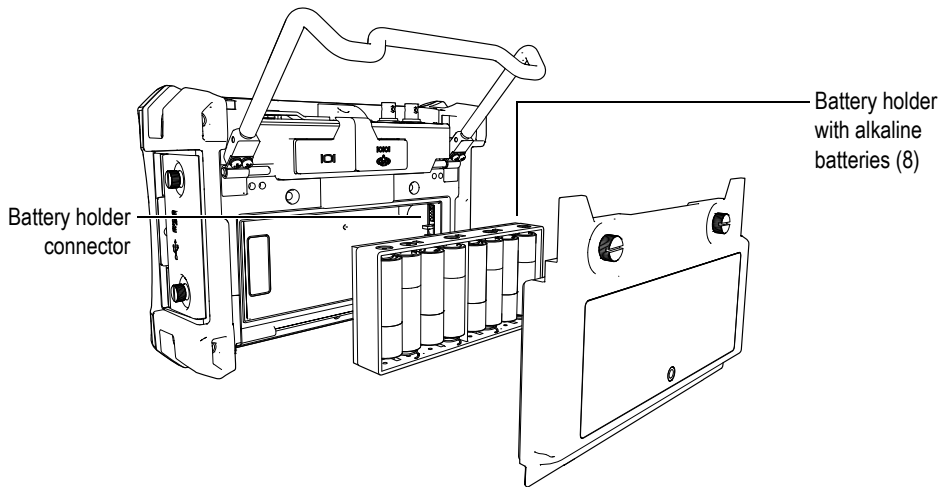

Figure 1-11 The alkaline battery holder
6. Position the alkaline battery holder in the battery compartment (see Figure 1-11 on page 31).